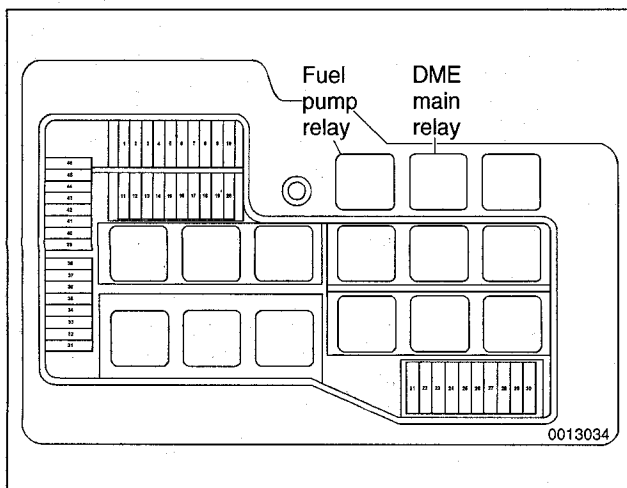

Fig. 6. Engine management relays in power distribution box in left rear of engine compartment.
1. Disable the ignition system by removing the engine management system main relay and the fuel pump relay. See Fig. 6.